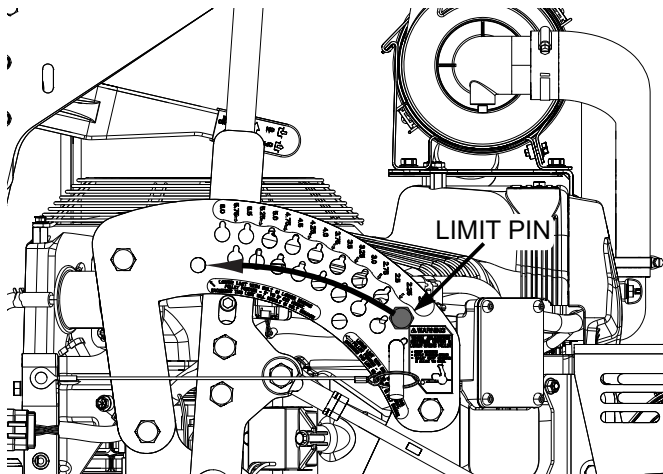

Figure 4-8. Deck Height Range Adjustment Pin
3. Move limit pin from lower position hole in to upper position hole. See Figure 4-8.